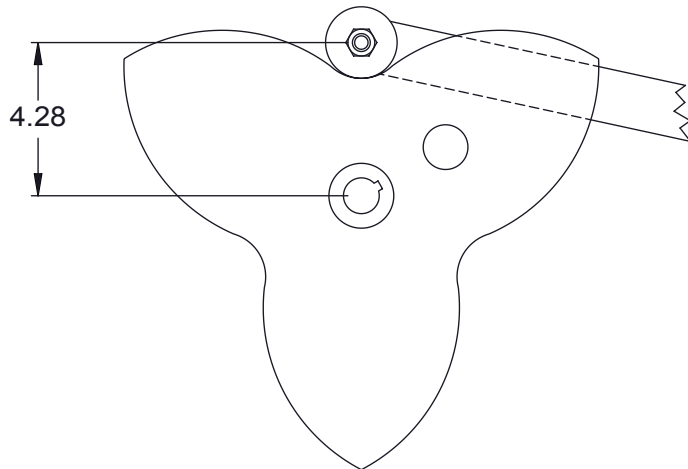

Figure 1
Step 5. Roll spreader slightly, a few inches should do the trick, either forward or rearward until the cam follower roller resides at its lowest point on cam (Item 70), shown in Detail K. See Figure 1.